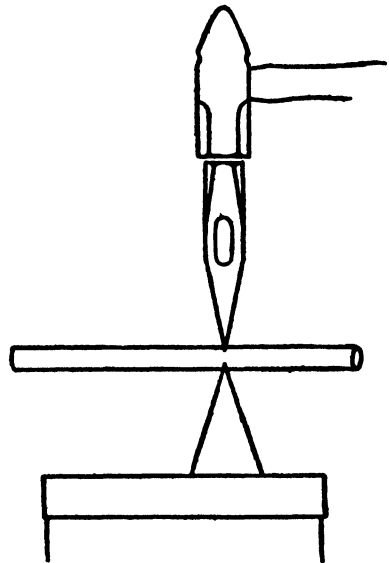

FIG. 14
6. If tool steel, or wrought-iron over $\frac{3}{8}$ " in diameter, is to be cut, place the stock on the edge of the anvil where the cut is to be made and set the cutter on the top of the stock exactly even with the cutting edge of the hardy and strike with the sledge until the stock may be easily broken. Fig. 14.